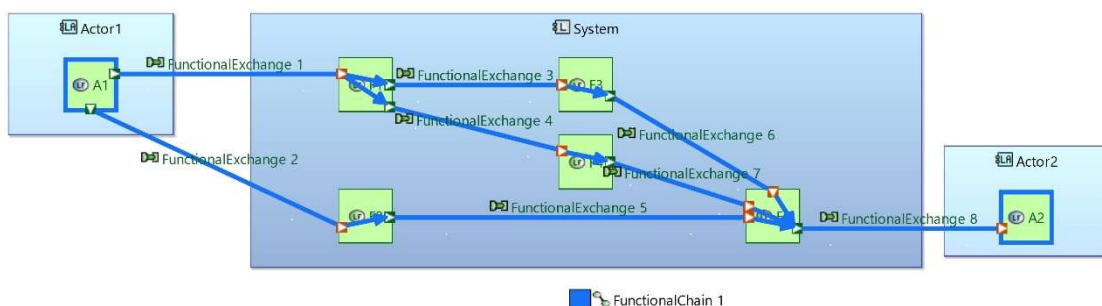

Figure 2 Functional Chain
- Select all Functional Exchanges as shown in Figure 2, using Ctrl + Left Mouse Button.